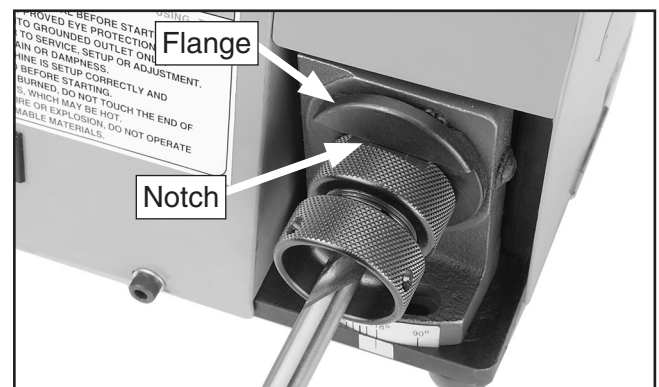

Figure 19. Collet holder notch parallel to grinding area flange.
2. Insert and rotate the collet holder into the front grinding area so the notch on the collet holder fits against the edge on the grinding area flange, as shown in **Figure 19**.